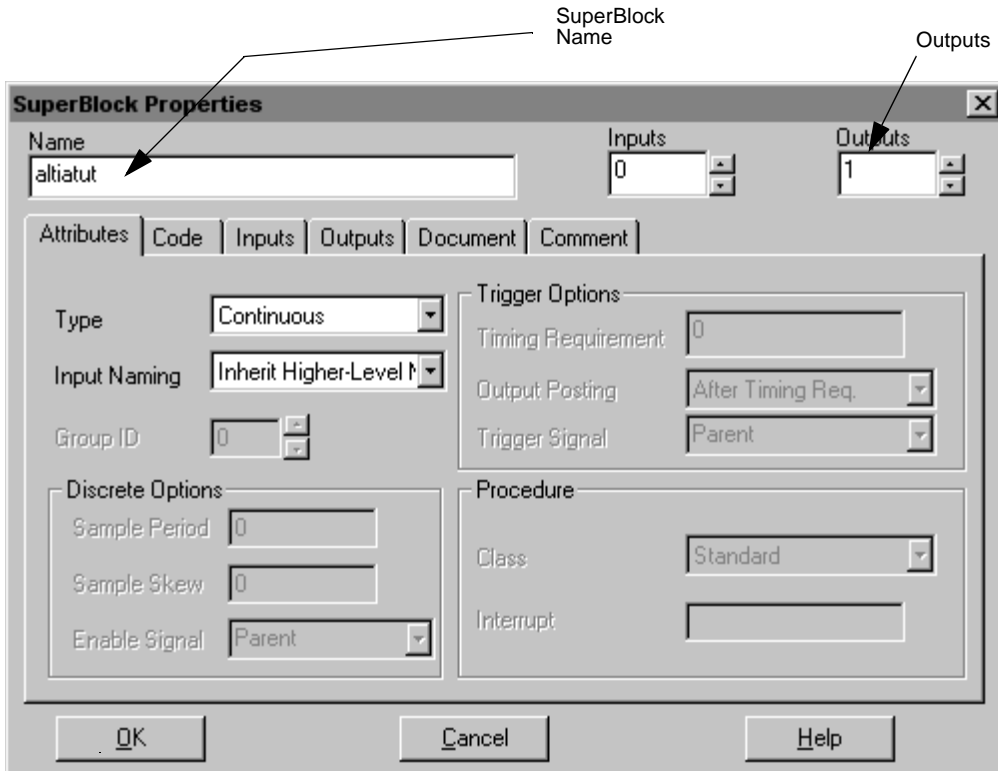

FIGURE 1-2 SuperBlock Properties Dialog Box
- The focus should be on the Catalog Browser, so in the Catalog Browser **File** menu, click on **New/SuperBlock**. This will open the SuperBlock Properties dialog box (See Figure 1-2) with the focus in the **Name** field.
- Type in a name for our SuperBlock (for example, `altiatut`) and change the number of outputs (located at the far right of the SuperBlock Properties dialog box) to one (1). Then click **OK** (at the bottom of the dialog).